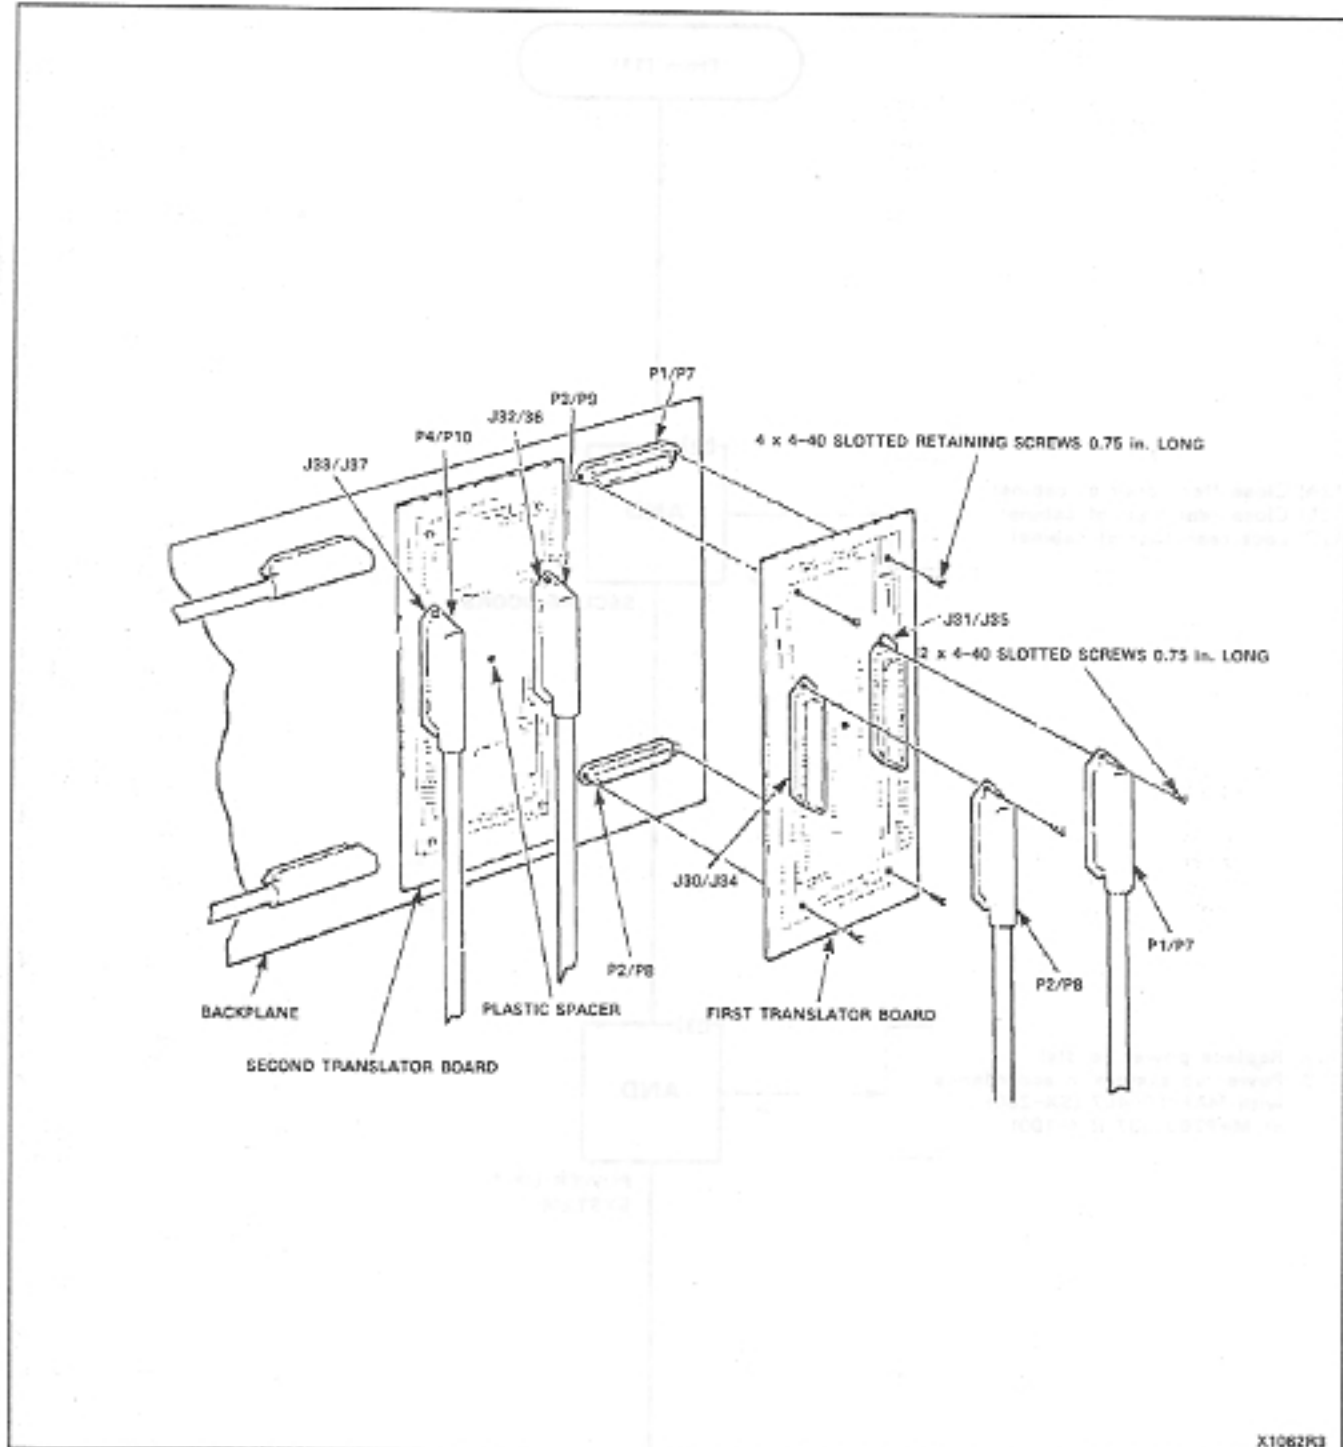

Fig. 605-1 Translator Board Installation
- (3A) Unscrew the 4-40 screw from the cable connectors on the backplane (Fig. 605-1)
- (4A) Plug the translator board into the backplane connectors (Fig. 605-1)
- (4B) Install four 6-32 screws (Fig. 605-1)